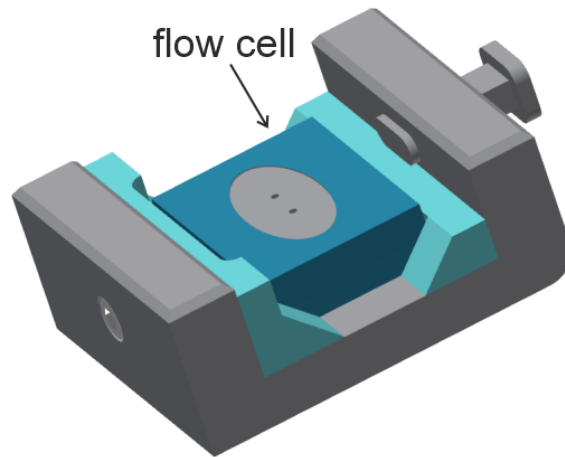

Figure 3. *The magnetic holder for the flow cell.*
2. Clean the flow cell with soft paper or cloth napkins dampened with ethanol. Place the tubes on the inlet and outlet of the flow cell. Fix the flow cell with tubes in the magnetic holder (**Figure 3**).
- 3) Place the magnetic holder *with the flow cell installed* (as shown in **Figure 3**) to the prism *with the sensor chip attached (through the oil viscosity)* and turn the lever on the left side of the Biosensor's optical unit counter-clockwise. **Note:** *Be sure that the sensor chip encloses the flow cell completely and will not leak.* Due to magnetic forces, the flow cell will be pressed against the sensor chip, forming a flow cell with the PC sensor chip surface as one wall.